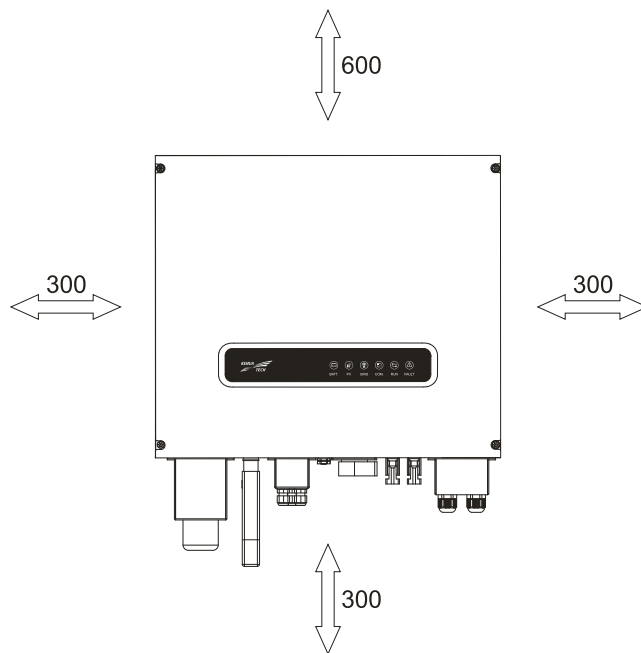

Figure3-1 Installation clearance(unit: mm)
After installing inverter, the reserved min. installation clearance of inverter is as shown in Figure3-1.
- Step 1 Determine the installation site according to the dimensions of inverter(as shown in Figure3-3) and installation clearance requirements(as shown in Figure3-1).